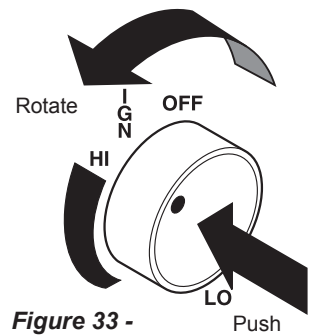

Figure 33 - HIGH Position
10. Push in control knob and turn counterclockwise to the HIGH setting. At this location the control knob will pop out when positioned correctly. The knob can now be positioned at any position between HIGH and LOW. Figures 33 and 34